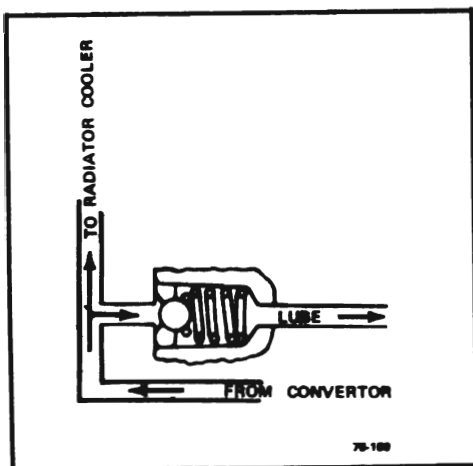

Figure 75-26 - Cooler By-Pass Valve
n. Cooler By-Pass Valve (See Figure 75-26)